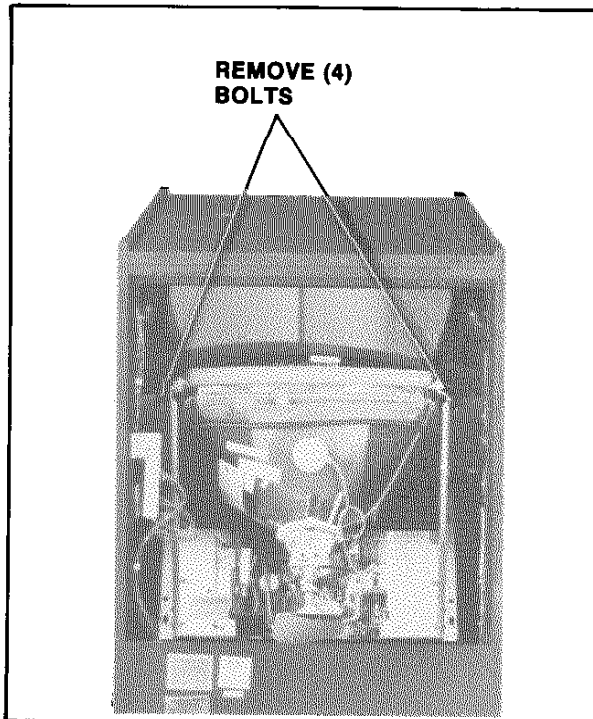

Figure 3-4 Removing the Monitor
1. UPRIGHT MODEL: See Figure 3-4.
- The monitor mounting bars slide on top of and against two metal guides mounted to the cabinet's right and left sides. The monitor is removed by sliding it out the back of the cabinet. See Figure 3-4.